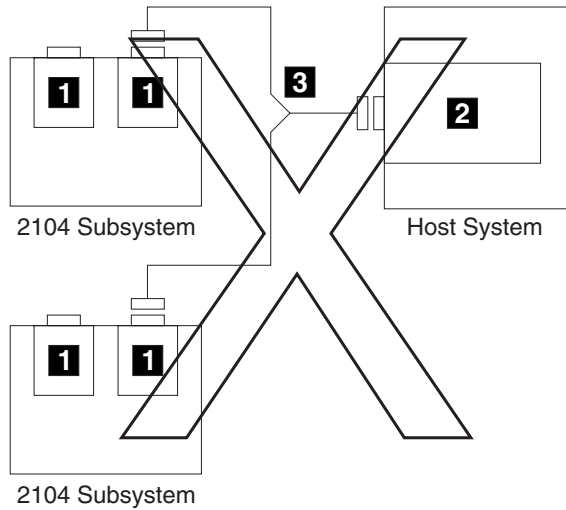

Figure 97. One adapter in one host system connected to two 2104 Model DS4 or Model TS4s through a Y-cable (2). This configuration is invalid.
Figure 97 shows one adapter in one host system connected to two 2104 Model DS4 or Model TS4s through a Y-cable (2).